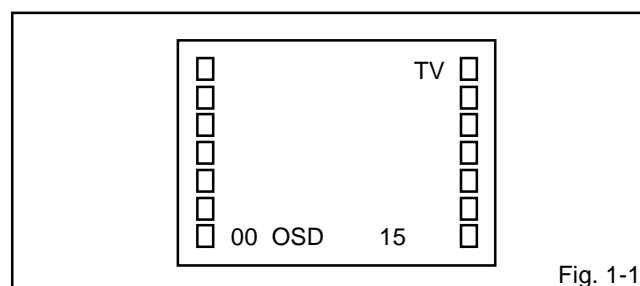

Fig. 1-1
Press the VOL. DOWN button on the set and the Channel button **(9)** on the remote control for more than 1 second to appear the adjustment mode on the screen as shown in **Fig. 1-1**.
4. Activate the adjustment mode display of **Fig. 1-1** and press the channel button **(02)** on the remote control to select "RF AGC DELAY".
3. Activate the adjustment mode display of **Fig. 1-1** and press the channel button **(01)** on the remote control to select "CUT OFF".
4. Activate the adjustment mode display of **Fig. 1-1** and press the channel button **(10)** on the remote control to select "R.BIAS".
3. Activate the adjustment mode display of **Fig. 1-1** and press the channel button **(16)** on the remote control to select "TINT".